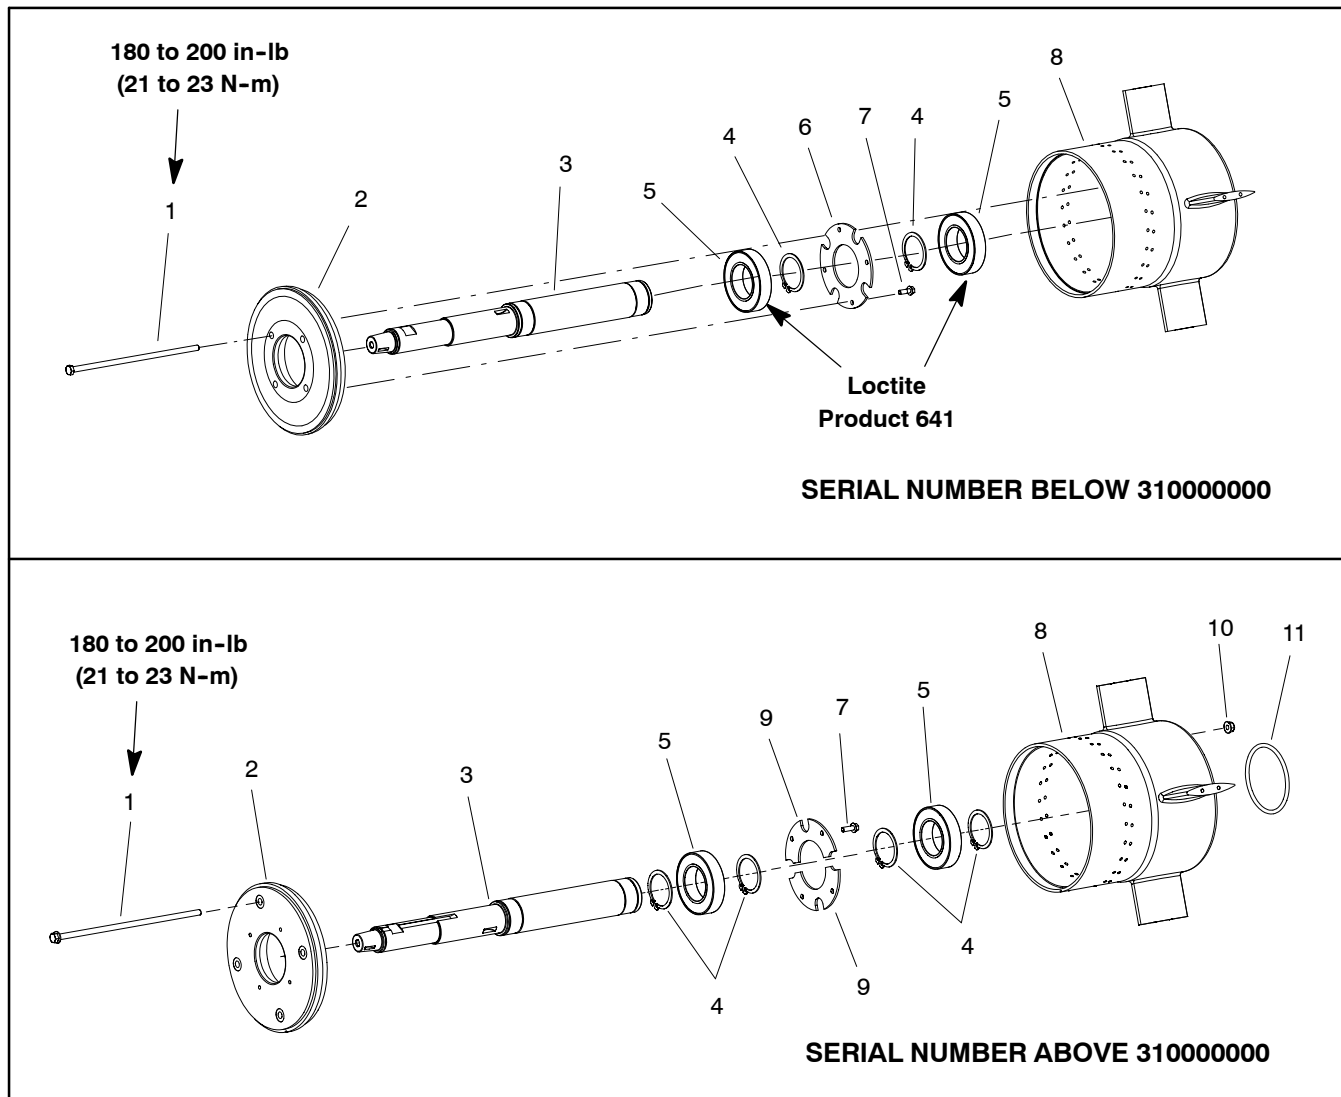

Figure 6
NOTE: Several changes were made to the rotor shaft assembly above machine serial number 310000000. Figure 6 shows both the earlier and later illustration for the inner housing assembly.
Removal (Fig. 6)
10. Remove four (4) flange head screws (item 7) that secure front bearing cap to bearing holder. Remove bearing holder from rotor shaft assembly.
11. Using Figure 6 as a guide, remove bearings, retaining rings and front bearing cap from rotor shaft as necessary.
12. On machines with serial numbers above 310000000, remove and discard O-ring (item 11) from inner housing.
Installation (Fig. 6)